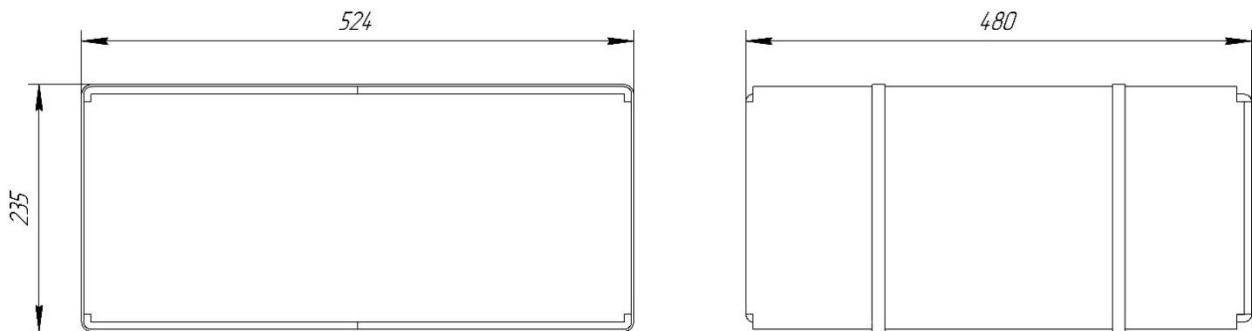

Figure 10.1 – Modem Packaging
10.1 The packaging drawing with dimensions is shown in Figure 10.1.